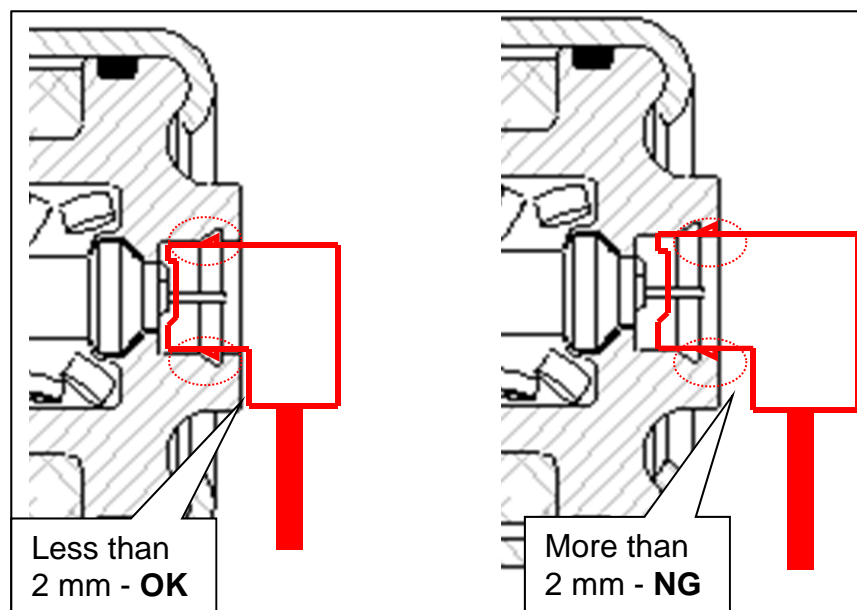

Figure 41
- Make sure harness connector is fully engaged / seated (Figure 41).